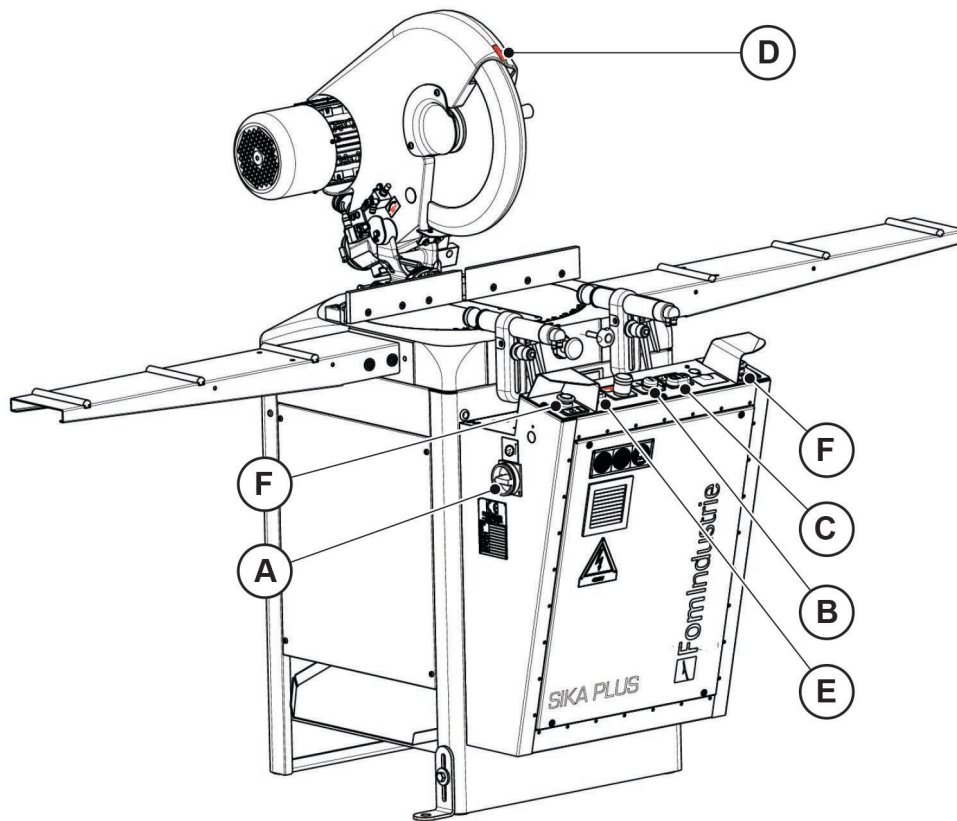

Fig. 08-01
- 1 Turn the main switch "A" (Fig. 08-01) to position "I".
- 2 Enable the machine for work by pressing the luminous button "B" (Fig. 08-01) (button with white light).
Before every operation, check the exact direction of rotation of the blade by pressing the green button "C" (Fig. 08-01) to start the motor, then immediately press the red button "C" to stop the motor. If the blade is seen to turn in the opposite direction while it is stopping, two of the three electrical phases connections must be inverted on the **SIKA PLUS A** power connection.
The correct direction of rotation of the blade can also be checked by observing the special straight arrow plate affixed to the head casing "D" (Fig. 08-01).
- 3 Place the profile on the work table and lock it in position with the horizontal vices by pressing white button "E" (Fig. 08-01).
- 4 Press the green button "C" to start the motor; then, simultaneously pressing buttons "F" (**Fig. 08-01**), command lowering of the blade to perform the cut.